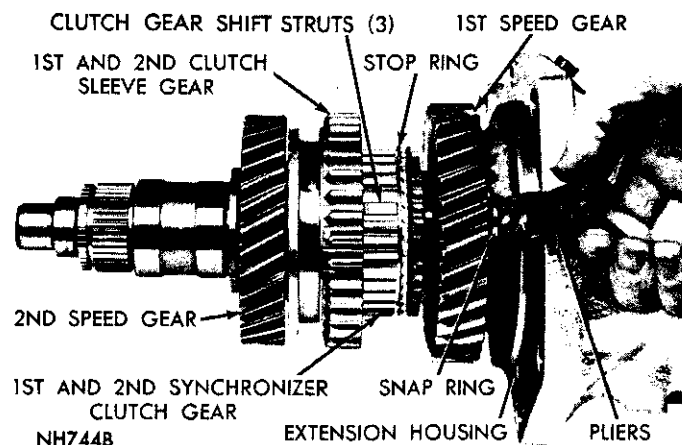

Fig. 23—Removing or Installing Mainshaft Bearing Snap Ring—Front
(7) Using long nose pliers, compress snap ring that retains mainshaft ball bearing in extension housing (Fig. 23).